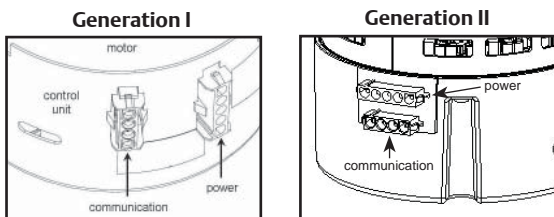
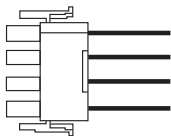

Figure 1
Figure 2
2. Disconnect the four wire communication cable from the control unit connector [Figure 1].
3. Connect the four wire connector of the Ultracheck-EZ diagnostic tool [Figure 2] to the control unit communication connector [Figure 1].
11. Reconnect the four wire communication connector to the control unit connector [Figure 1, page 7].